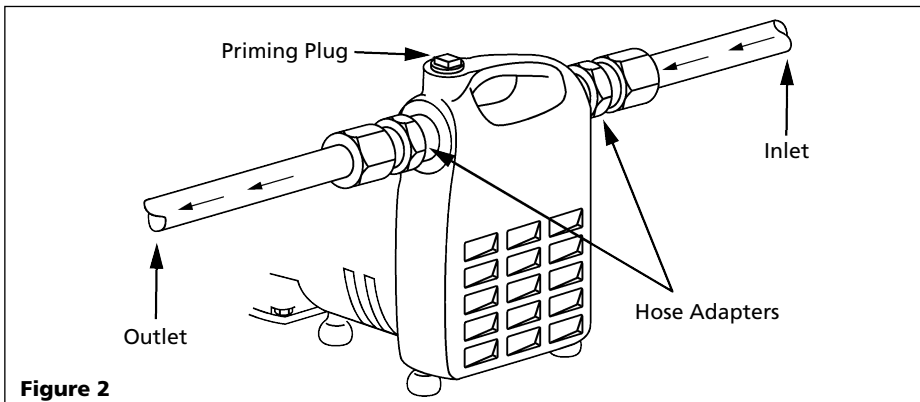

Figure 2
4. Figure 2 shows a typical installation. Threaded adapters are furnished for attaching garden hose where conditions permit its use. In no case should the pump be more than 15 feet above or away from inlet source. Install a foot valve and when suction lift is over 10 feet or when suction line is over 10 feet.